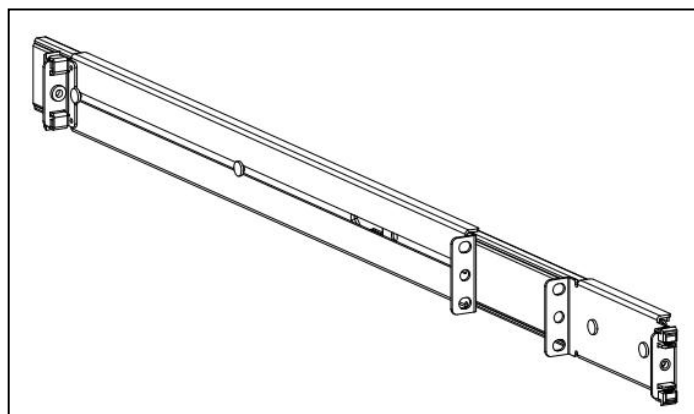
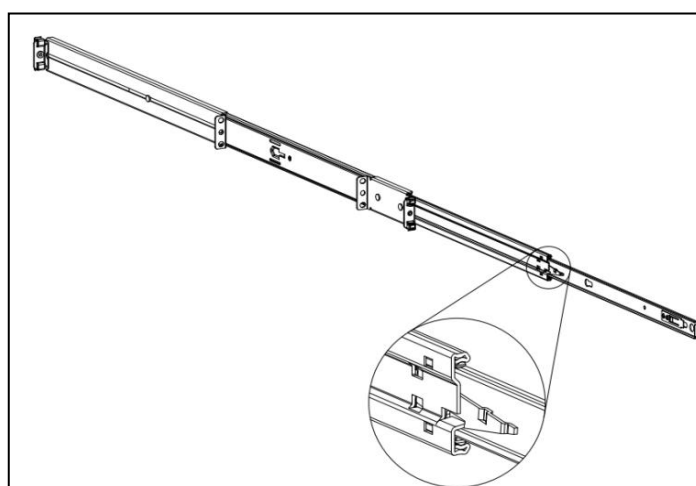
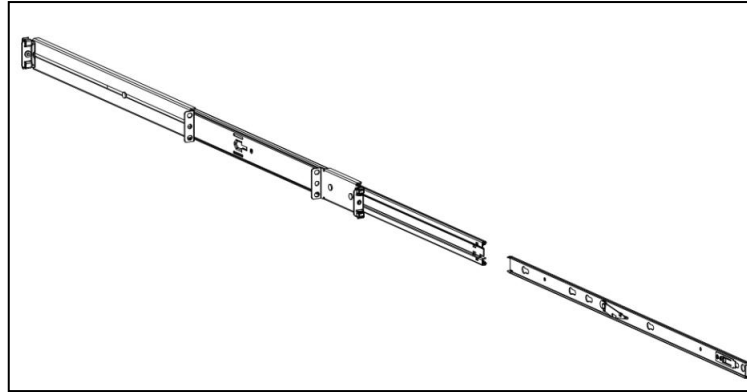

Figure 5.1
Figure 5.2
Figure 5.3
1. Pull out the inner rail of the guide rail. As shown in Figure 5.1, Figure 5.2, and Figure 5.3: